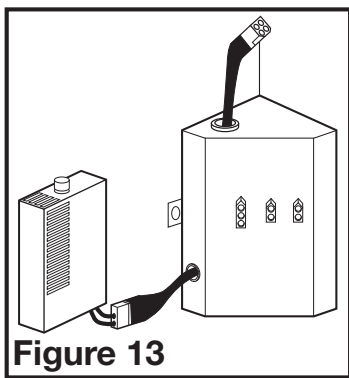

Figure 13
- 3c. **HUMIDITY SENSING MODELS:** Plug the fan's 2 pin and 3 pin quick connect motor cords into the corresponding receptacle located on the wire compartment cover. Connect the two pin connector from the humidistat compartment to the two pin connector from the side of the wire compartment cover. These cords will only fit one way into the receptacles (**Figure 13**).